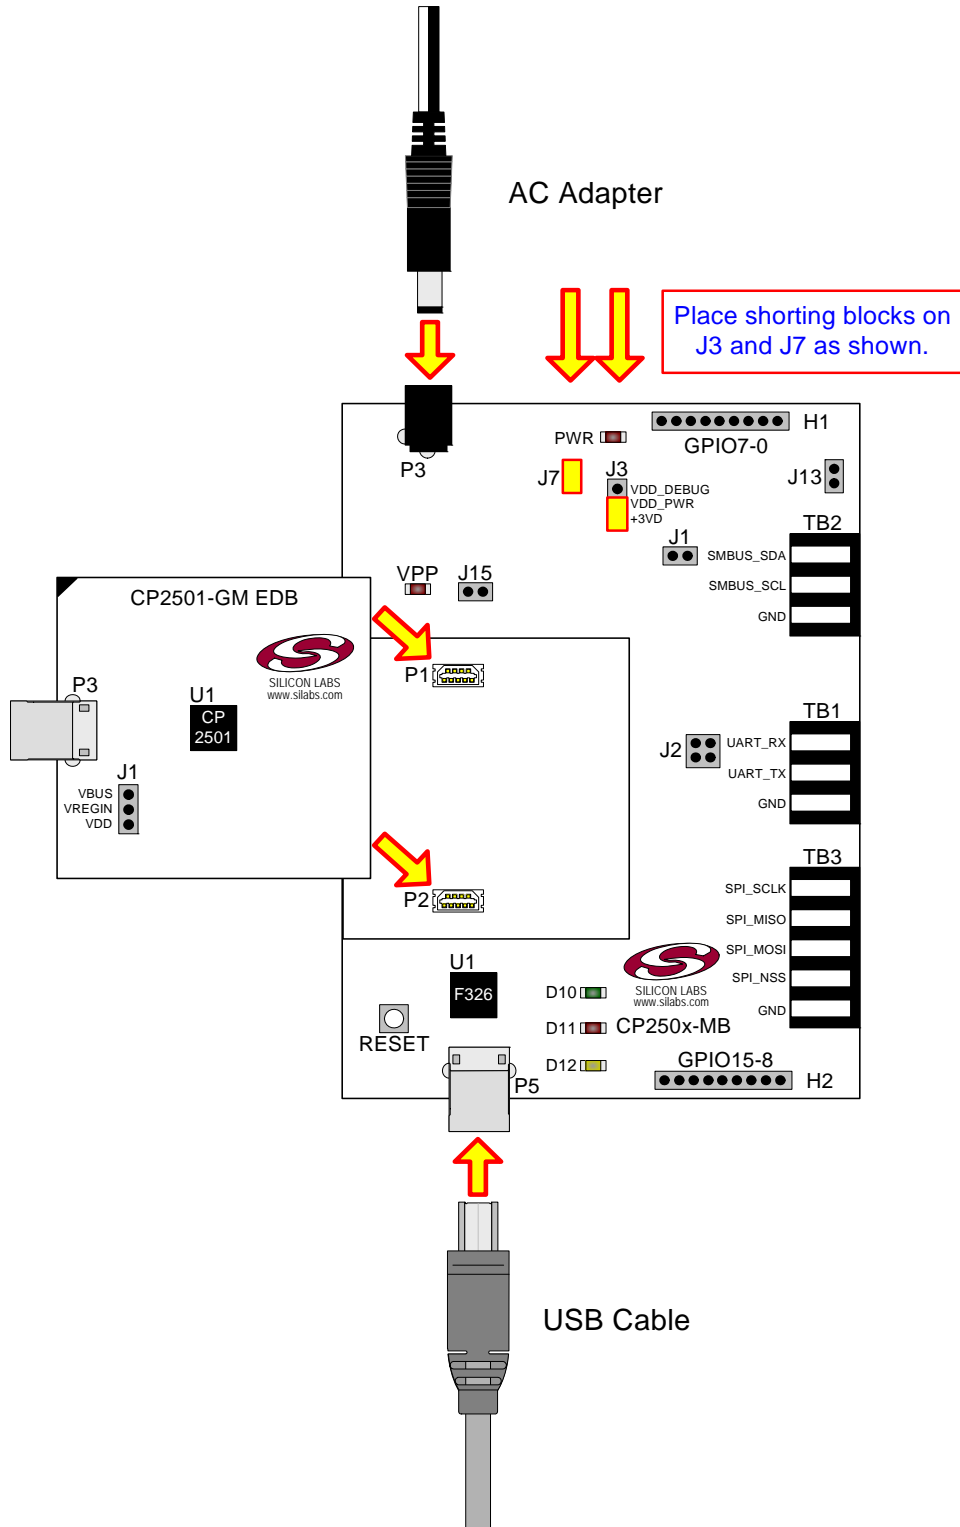

Figure 1. Hardware Setup
See Figure 1 for a diagram of the hardware configuration.
2. Place shorting blocks on J7 and J3 [+3VD, VDD\_PWR], as shown in Figure 1.